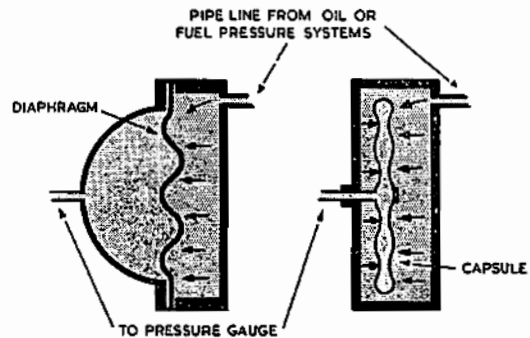

Fig. 1. Diaphragm and Capsule Pressure Transmitters.
6. **Hydraulic Transmitters.** One type (Fig. 1, left) consists of two chambers separated by a diaphragm. The pressure of the oil or fuel in one of the chambers is communicated by the diaphragm to a selected liquid in the other chamber and thence, by capillary tubing, to the instrument. Another type (Fig. 1, right) employs a capsule which is filled with the transmitting fluid (or gas in some instances) and is surrounded by the fuel or oil under pressure.